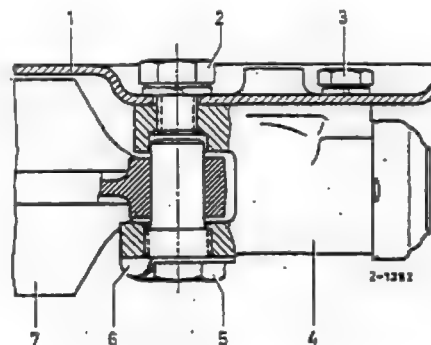

Fig. 42-8/4
13. Screw in and tighten the stop screw (2) (Fig. 42-8/3).
14. First place in position the large washer (6), the pressure spring (7), and then the small washer (8) and screw in the hexagon screw (9) until it is positioned against the adjustment bolt (3) (see Fig. 42-8/1).